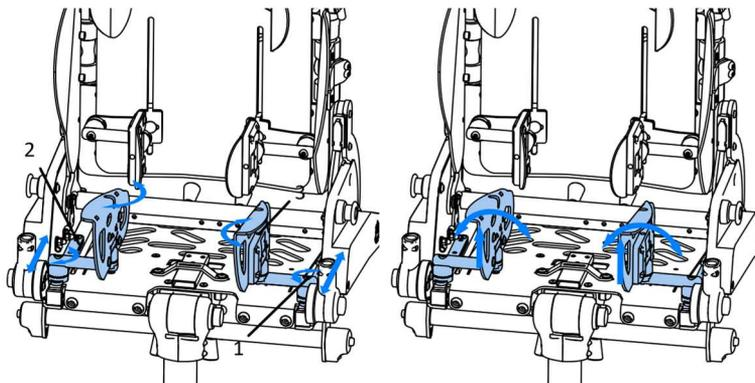

Fig. 18
Hip supports enable correct support of the patient in the pushchair seat Fig. 18. To precisely adjust the position of the hip supports, unscrew the screw (1) and place the support in the appropriate mounting location on the guide (2). Without fully tightening the screw (1), set the width of the supports spacing. To adjust the contact angle of the hip supports, loosen the screw (3) to unlock the pad movement. After setting the desired position of the support, tighten the screws (1) and (3) to lock the position of the support. The design of the seat allows for independent adjustment of the right and left pads.